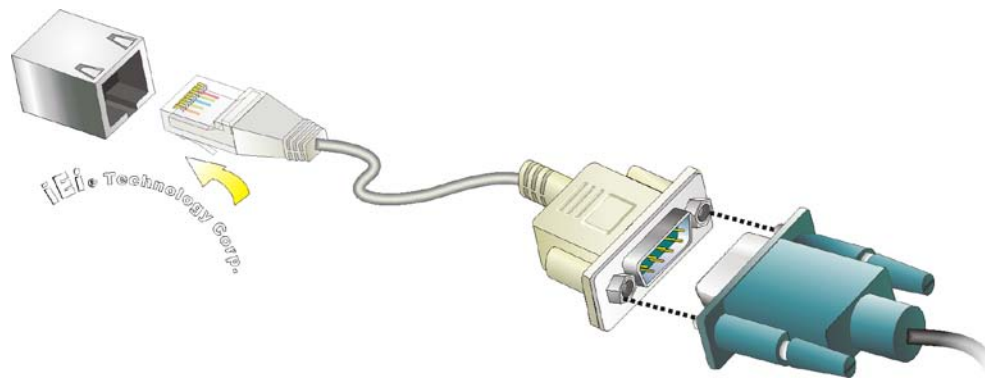

Figure 3-29: RJ-45 RS-232 Serial Device Connection
Step 2: Insert the RJ-45 connector. Insert the RJ-45 connector on the RJ-45 to DB-9 COM port cable to the RJ-45 RS-232 connector on the UPC-V315-NM70. See **Figure 3-29**.
- Step 6: Insert the RJ-45 connector.** Insert the RJ-45 connector on the RJ-45 to DB-9 COM port cable to the RJ-45 RS-422/485 connector on the UPC-V315-NM70. See **Figure 3-29**.